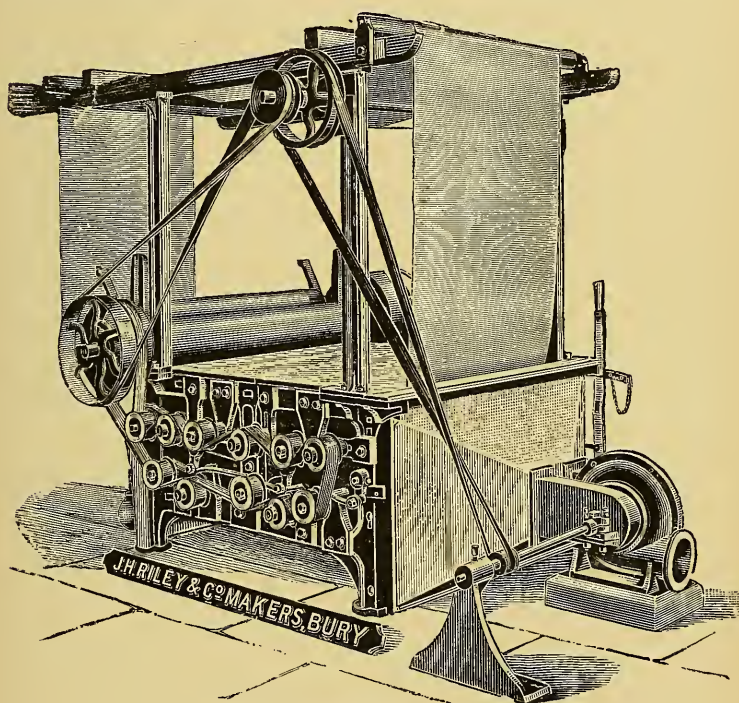

Fig. 44.—Mote-Clearing Machine.
**The Mote Clearer.**—This machine (shown in Fig. 44) removes all leaf and impurities that obtain in fabrics woven from low grades of cotton, leaving a clean, saleable cloth; both sides are thoroughly brushed at the same time, and all foreign matter, loose threads, etc., are swept away. Any desired pressure can be put upon the texture. A fan drives out the dust, which by means of a pipe is conveyed outside the building. The cloth treated by this mote-clearing machine always has the appearance of being made from superior cotton.